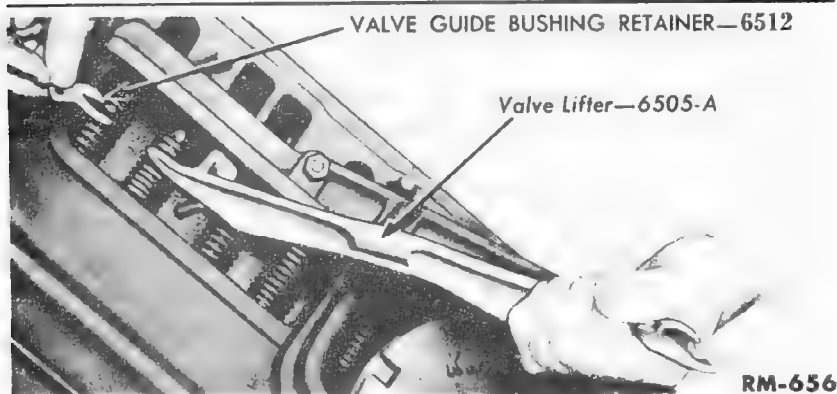

Fig. 40—Installing Valve Guide Bushing Retainer
c. **Install Valve.** Crank the engine until the push rod is at the bottom of its travel. Place the valve assembly in the engine. Compress the valve spring and insert the retainer as shown in fig. 40.